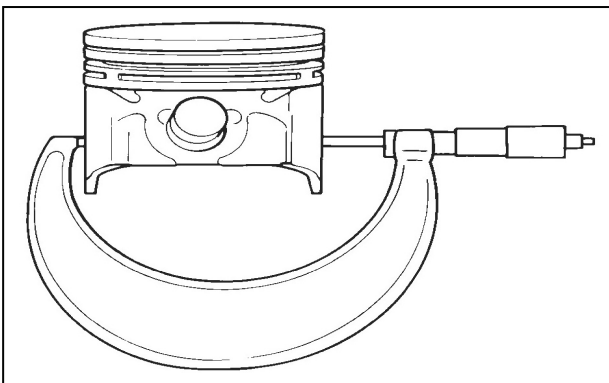

Figure 12-35 Measuring Piston Skirt
- B. Piston diameter. Measure the piston skirt at a right angle to the piston pin, at the centerline of the piston pin (figure 12-35).